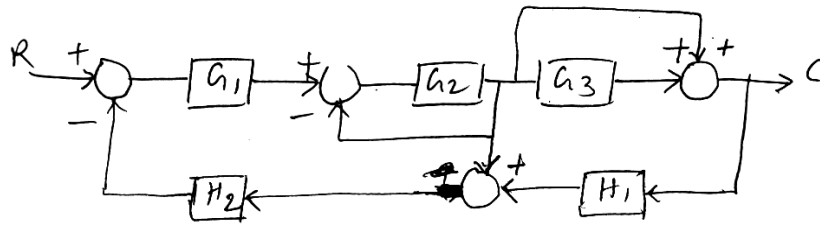

Fig Q.6(a)
- 6 a. Find C/R for the system shown in the Fig. Q.6(a) using block diagram reduction,